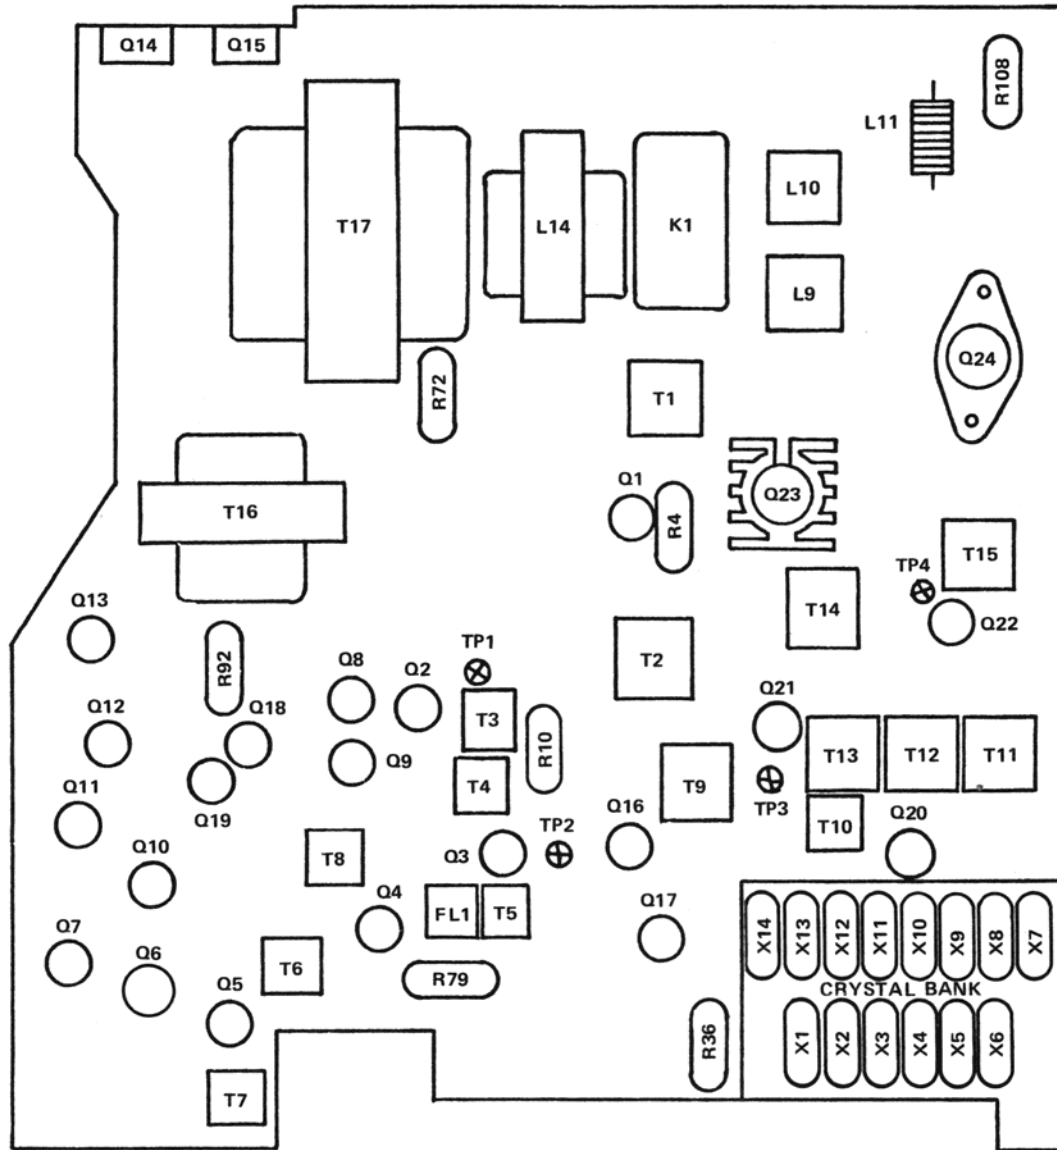

Figure 4-1 Alignment And Test Point Locations
4. Connect a 50 ohm dummy load to the output of the wattmeter. Refer to Figure 4-1 for alignment and test point locations.